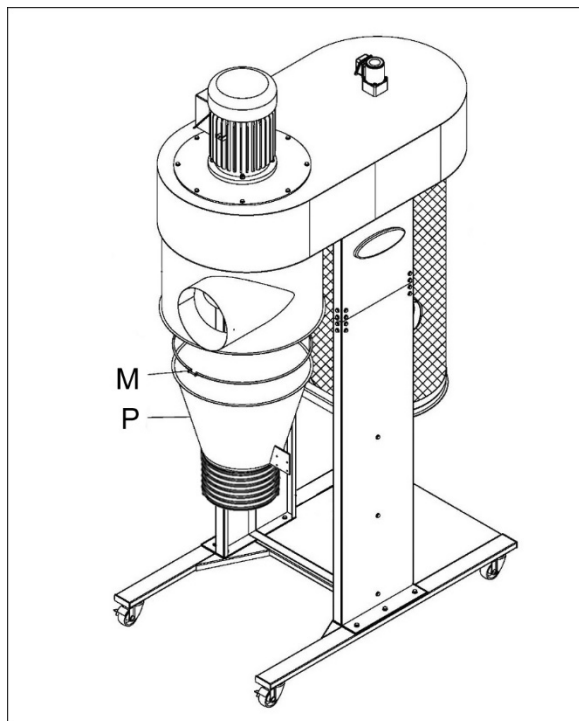

Figure 5-7
11. Assemble cone (P) to housing with clamp (M). See Figure 5-7. Position cone so that flanges face forward and are parallel to stand. Tighten screw on clamp.